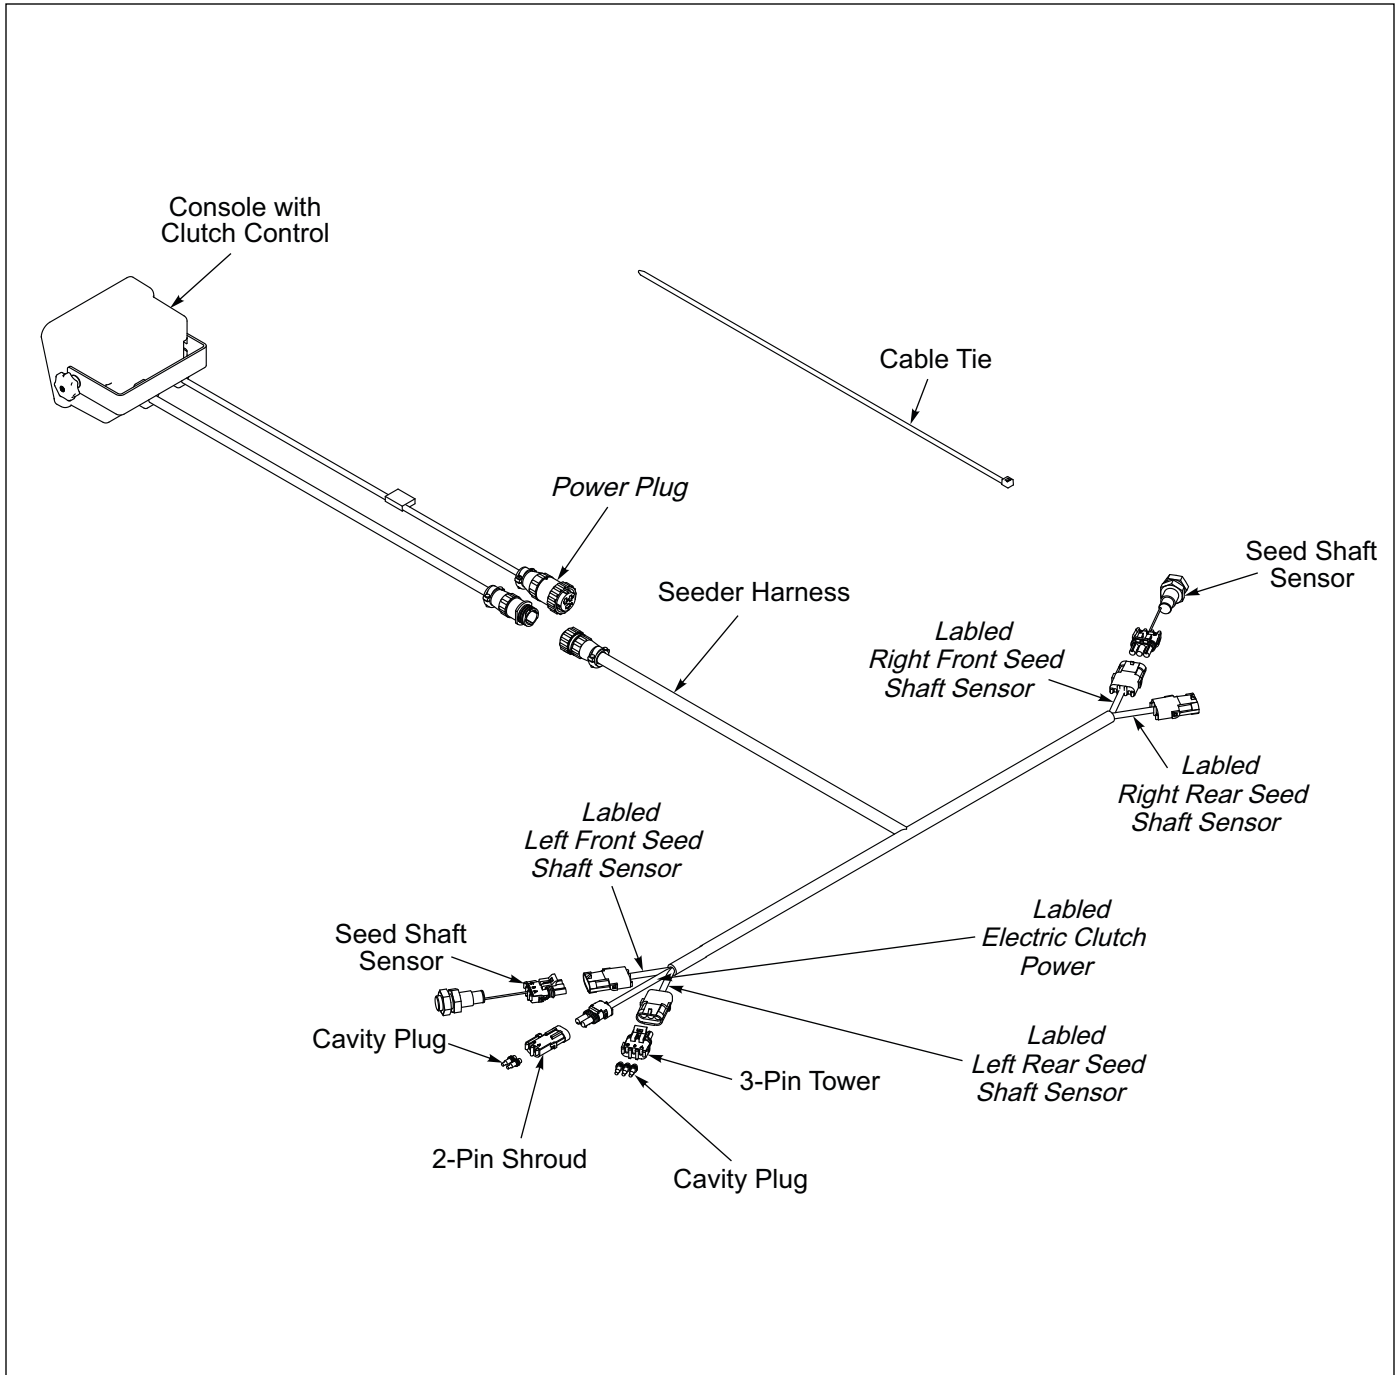

Figure 2-22: Seed Shaft Sensor Schematic
5. On left side seal the plug that says Electric Clutch using a 2-Pin Shroud and Cavity Plug to protect it from the environment. **See Figure 2-22.**